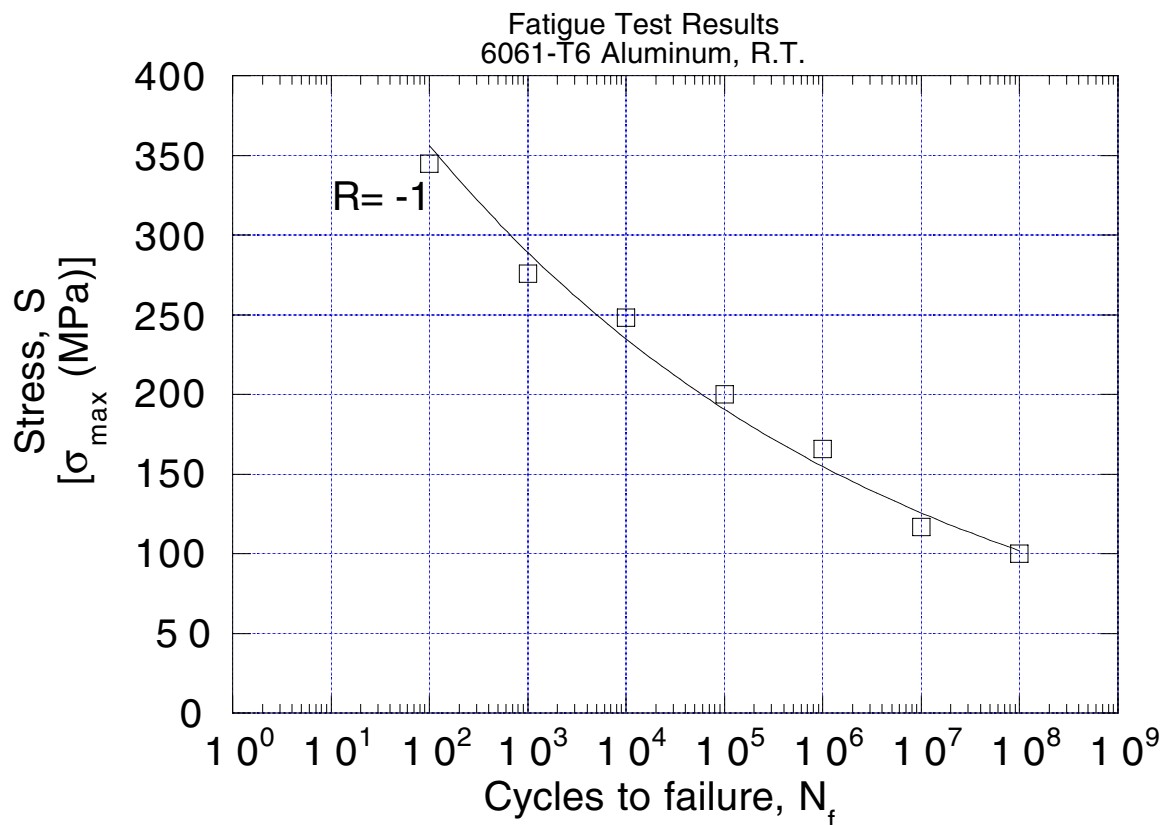

Figure 1 S-N curve for 60612-T6 aluminum at room temperature
Plot your test results as maximum stress, σ_{\max} , versus log of cycles to failure, N_f in Figure 1. Note that a log scale is used for N_f so there is no need to compute $\log N_f$.
- 4) Plot the all the test results for R=0.1 on the S-N curve shown in Figure 1. For this material, is there evidence of a well-defined fatigue (endurance) limit, σ_e ? Is this what you expected?